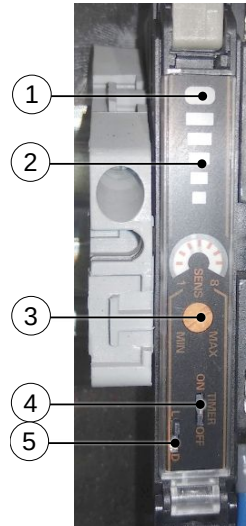

Figure 4: Fiber amplifier
2. Locate fiber amplifier in electric panel, see Fig.4.
3. If operation indicator (1) is off, go to the next step. If indicator (1) is on, rotate the screw (3) counter-clockwise, until indicator (1) turns off.
4. Set timer switch (4) to OFF.
5. Set operation mode selector (5) to L.
6. Slowly rotate the screw (3) clockwise until indicator (1) turns on.